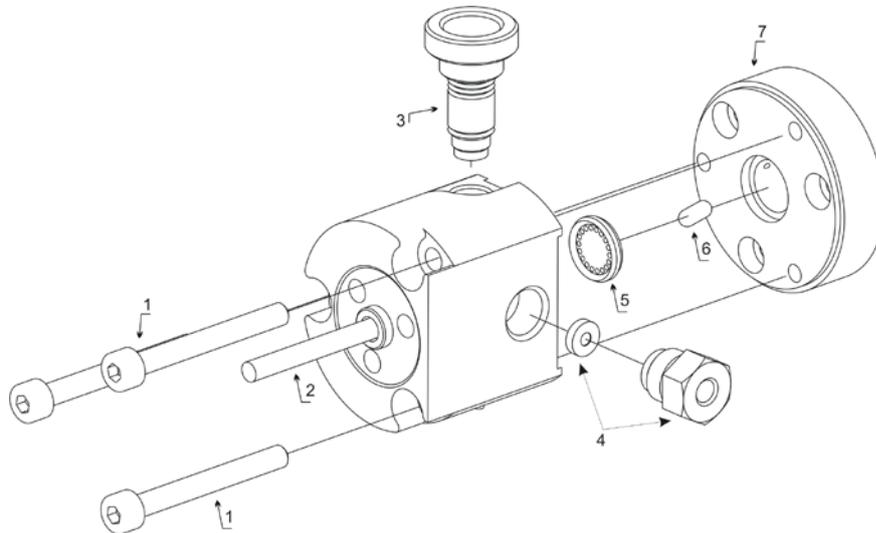

Fig. 59: Outlet unit with mixing chamber
4. Disconnect the capillary from the pump outlet and on the mixing chamber bottom part (→ Fig. 59, page 135, no. 7).
6. Remove the mixing chamber base, old gasket, and stirrer (→ Fig. 59, page 135, nos. 5 through 7).
8. Clean the mixing chamber bottom part and insert the stirrer (→ Fig. 59, page 135).